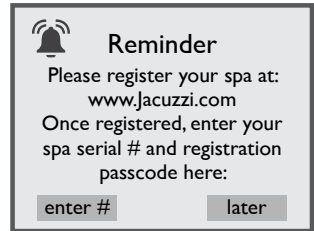

Figure 10.2a
1. From the registration screen, Figure 10.2a, tap  to enter the spa serial number.